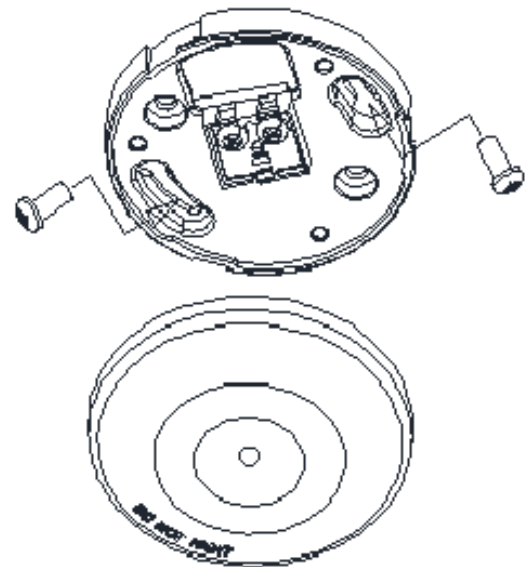

Fig. 2: 681
2. Clip the body to the base (see Fig. 2).